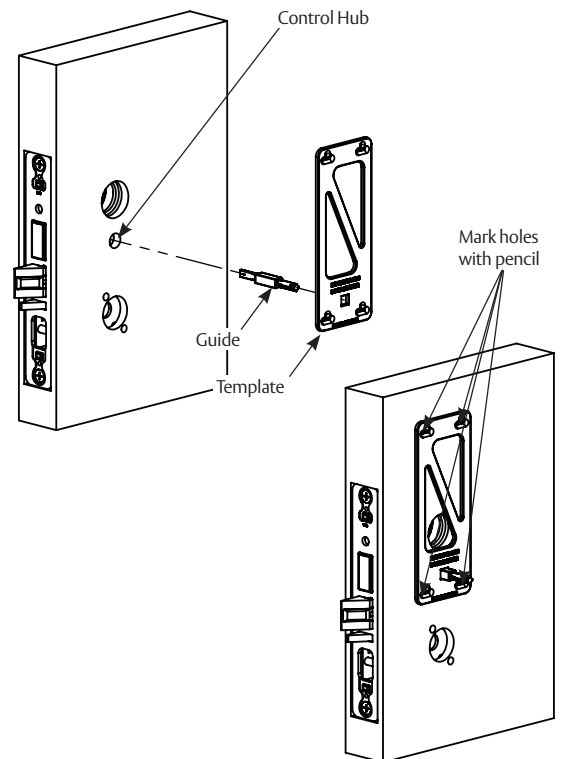

Figure 7
1. Insert template guide into control hub on side where indicator will be used. (Figure 7)
3. Mark the four (4) hole positions indicated on template.
7. Drill four (4) marked holes with 3/32" diameter bit, by 1/2" deep.